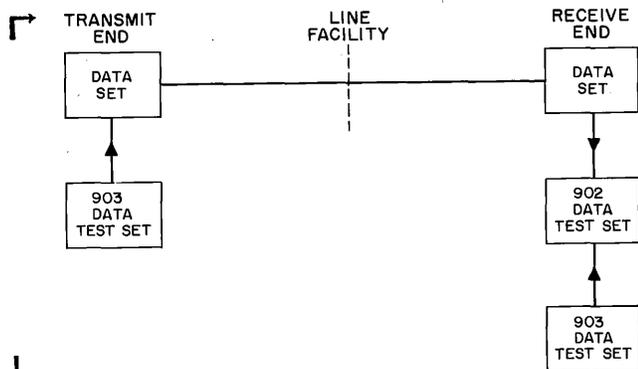

Fig. 1 - Block Diagram, End-to-End Test
- 4.02 Each station is to be tested both as a transmitter and as a receiver. Fig. 1 shows a block diagram of test setup.